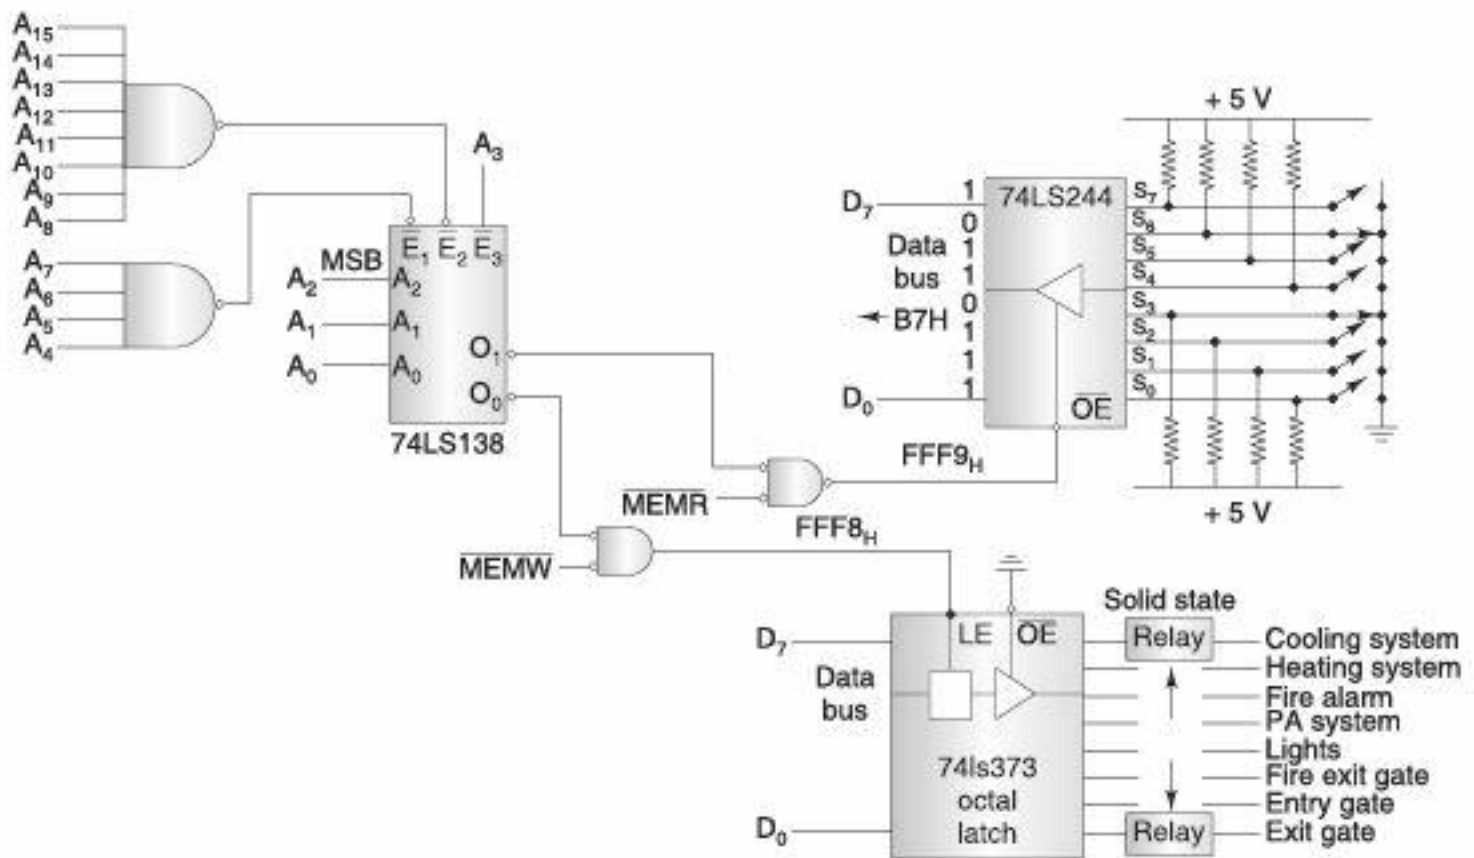

Fig. 3.16 Memory Mapped I/O Interfacing
The 74LS373 is a latch followed by a tri-state buffer, as shown in Figure 3.16. The latch buffer is controlled independently by the Latch Enable (LE) and Output Enable (\overline{OE}). When LE is high, the data enter the latch, and when LE goes low, data are latched. The latched data
are available on the output lines of the 74LS373 if the buffer is enabled by \overline{OE} (active low). If \overline{OE} is high, the output lines go into the high impedance state. Figure 3.16 shows that the \overline{OE} is connected to the ground; thus, the latched data will keep the relays on/off according to the bit pattern. The LE is connected to the device select pulse, which is asserted when the output 00 of the decoder and the control signal \overline{MEMW} go low.
The DIP switches are interfaced with the 8085 using the tri-state buffer 74LS244. The switches are tied high, and they are turned on by grounding, as shown in Figure 3.16. The switch positions can be read by enabling the signal \overline{OE} , which is asserted when the output O_1 of the decoder and the control signal \overline{MEMR} go low. Therefore to read the input port the port address should be as follows: